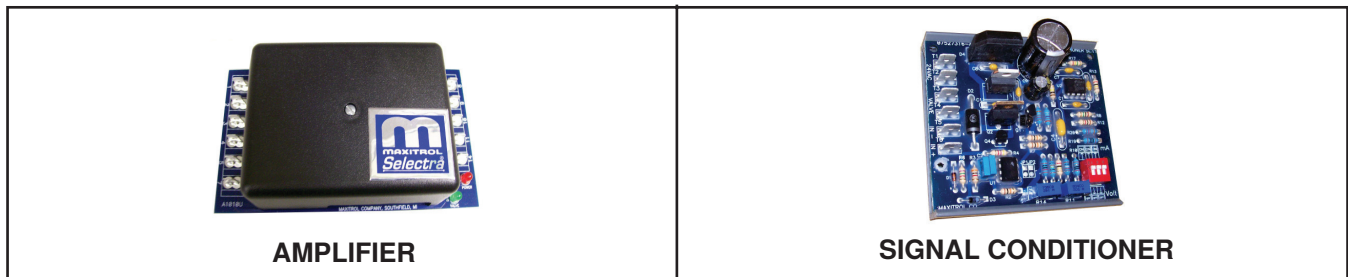
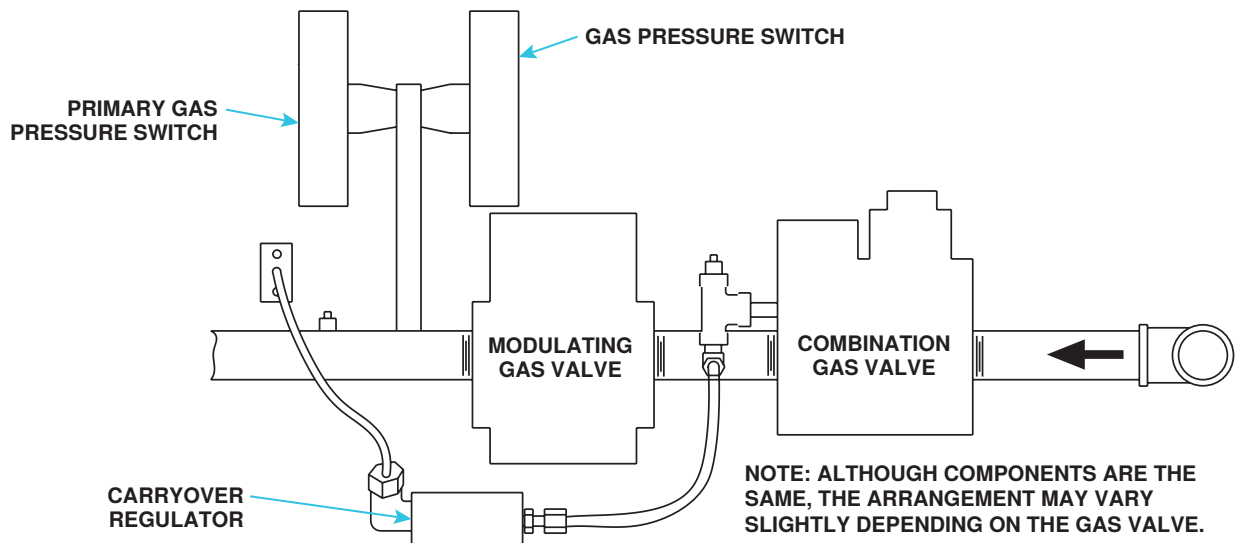

Figure 31. Maxitrol Amplifier and Signal Conditioner
Figure 32. Typical Manifold Arrangement with Electronic Modulation
- **Electronic modulation between 50% and 100% firing rate (option AG8):** Electronic modulation for makeup air application that is controlled by a duct sensor and temperature selector (55–90°F (12.8–32.2°C)). The temperature selector setting for option AG8 is on the amplifier (see Figure 31). Option AG8 is available with an override thermostat.
- **Electronic modulation between 50% and 100% firing rate (option AG21):** With option AG21, the furnace is equipped with a Maxitrol signal conditioner (see Figure 31) that operates much the same way as the amplifier above to control the regulator valve. The signal conditioner accepts an input signal of either 4–20 milliamps or 0–10V from a customer-supplied control device such as a computer. With the dip switches on the conditioner positioned to ON, the conditioner accepts a 4–20 milliamp signal. With the dip switches on the conditioner positioned to OFF, the conditioner accepts a 0–10V signal. The conditioner converts the signal to the 0–20V DC current required to control the modulating valve.
- Electronic Modulation Between 25% and 100% Firing Rate (Options AG39 and AG41):** The furnace closest to the blower is equipped with the electronic modulation option. The other furnace(s) have two-stage burner control from outside air temperature sensors identified as heat stage controllers. Option AG41 provides 6:1 turndown with two furnaces and 8:1 turndown with three furnaces. The furnace will ignite at any input rate in the available range and will maintain average thermal efficiencies equal to or greater than the thermal efficiency at full fire. The gas train (see Figure 32) includes a single-stage gas valve, a modulating valve, and two gas pressure switches. The burner rack is equipped with one flash carryover and a regulated gas lighter tube system. The carryover lighter tube receives its gas supply through the regulator simultaneously with the gas to the burner. Control of the system is through a Maxitrol amplifier (see Figure 31) with a corresponding remote temperature dial. The gas supply (refer to pressure requirements in Table 22) connects to the single-stage gas valve. To compensate for additional pressure loss through the modulating valve, the single-stage gas valve has a custom outlet pressure setting higher than when it is used on a standard gas manifold. The pilot tubing connects to the pilot port on the single-stage gas valve. When the valve receives a call for heat from the amplifier and pilot is established, gas flow from the single-stage valve goes to both the modulating valve and the regulated lighter tube system. When the signal from the amplifier to the modulating valve requires less-than-high fire operation, the modulating valve functions to lessen the gas flow to the burner to reduce the input rate to that which is necessary to maintain the desired temperature. When the input rate is reduced enough to decrease the gas pressure to 1.1 IN WC, the primary gas pressure switch in the manifold activates the gear motor that controls the bypass damper in the venter/combustion air system. The bypass damper opens to divert some of the incoming air directly into the flue duct to reduce air flow through the burner. Safety switches monitor the position of the bypass damper. When the gas pressure rises to >1.1 IN WC, the bypass damper closes. Although the sensor has a mixing tube, at this distance from the discharge it does not receive a true mix, so the temperature read by the sensor will be slightly higher than the actual air entering the ductwork. The system will provide comfort level heat if the selector is set slightly lower to compensate for this reading. The offset temperature will vary with the application. If a direct correlation of these two temperatures is required, move the duct sensor to a location in the ductwork about 10–12 feet (3–3.7 meters) from the furnace discharge. This uniquely-designed modulation system requires combustion air pressure settings different from the standard system. Refer to Table 20 for the approximate combustion air proving switch settings at sea-level operation. Refer to the Troubleshooting Bypass Combustion Air Damper Safety Circuit on Units with Option AG39, AG40, AG41, or AG42 section for troubleshooting.
- **Electronic modulation between 25% and 100% firing rate (options AG40 and AG42):** The furnace is equipped with a Maxitrol signal conditioner (see Figure 31) that receives an input signal of either 4–20mA or 0–10V from a customer-supplied control device such as a computer. With the dip switches on the conditioner positioned to ON, the conditioner accepts a 4–20mA signal. With the dip switches on the conditioner positioned to OFF, the conditioner accepts a 0–10V signal. The conditioner converts the signal to the 0–20V DC current required to control the modulating valve. The furnace functions and is equipped in the same way as options AG39 and AG41 except that with computer control, the temperatures are selected through the software and there is no temperature selector or duct sensor. This uniquely-designed modulation system requires combustion air pressure settings different from the standard system. Refer to Table 20 for the approximate combustion air proving switch settings at sea-level operation. Refer to Table 22 for pressure requirements. Refer to the Troubleshooting Bypass Combustion Air Damper Safety Circuit on Units with Option AG39, AG40, AG41, or AG42 section for troubleshooting.